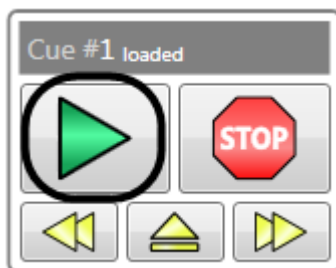

Figure 249
1. You can press the **GO** button in the **Cue Controller** in the **Motor Editing Pane** (Figure 249).